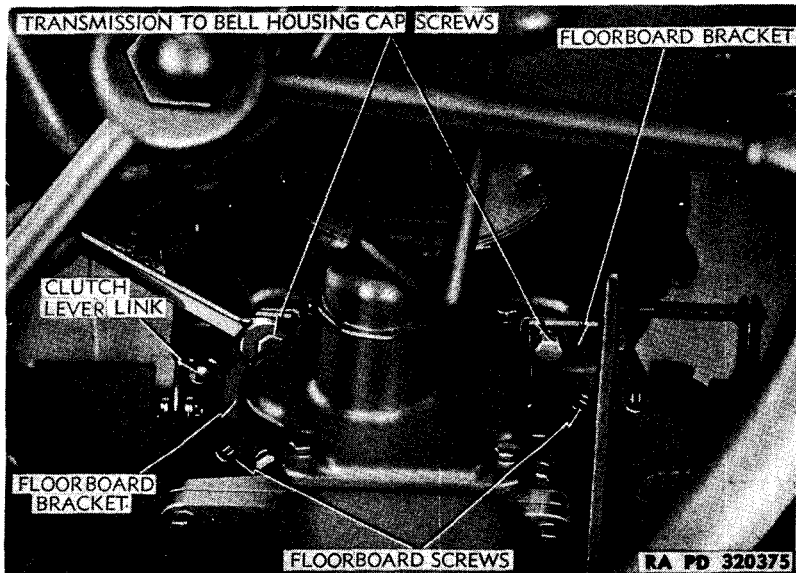
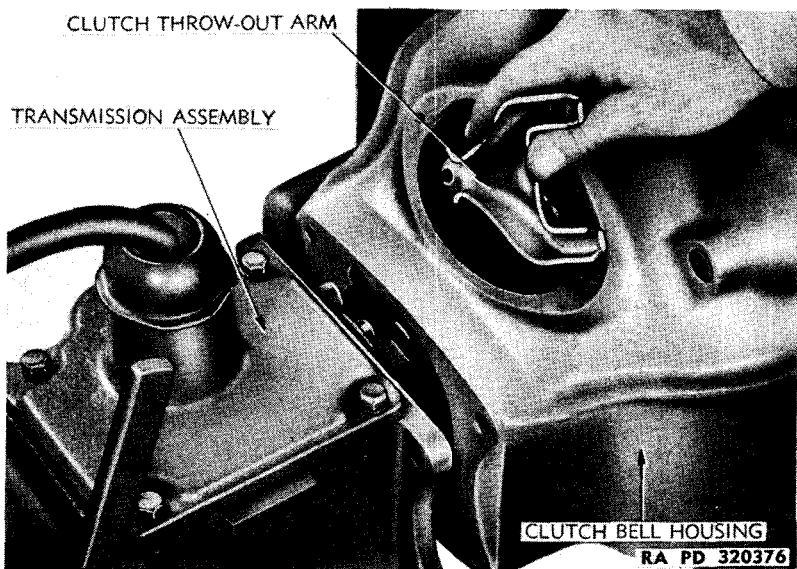

Figure 75—Removing Cap Screw from Clutch Housing
Figure 76—Installing Clutch Throwout Lever
b. Removal (as a unit). Transmission and auxiliary transmission are to be removed as a unit. Remove fuel tank (par. 66 c). Remove one screw from top side of floorboard on each side of transmissions. Remove four cap screws holding transmission to clutch housing (fig. 75), and remove floorboard bracket on right-hand side of transmission. Remove two cap screws from transmission support bracket under transmission. Remove inspection hole cover from top of clutch housing; disconnect clutch pedal spring and clutch adjusting link at clevis end by removing pin from clevis. Reach through inspection hole in clutch housing, and hold clutch throw-out lever and lever link. Disconnect outside clutch linkage from lever link by moving it forward and down; continue to hold clutch throw-out lever, and lever link, move transmission back from clutch housing about 1 inch, and remove lever link by moving it forward and to the left to disconnect it from clutch throw-out lever. Continue to hold clutch throw-out lever, move transmission slowly toward back of tractor until clutch shaft is out of clutch housing. Move clutch throw-out lever from back of clutch throw-out bearing as transmission is being moved back, allowing clutch throw-out bearing to be removed with transmission. Remove clutch throw-out lever from clutch housing after transmission has been removed.
(1) Enter clutch shaft through back of clutch housing. Move transmission forward until clutch shaft hits clutch plate, shift both transmissions into high gear with shift levers, turn universal joint flange to line splines on clutch shaft with splines in clutch hub, and push forward on transmission while turning universal joint flange so clutch shaft will enter clutch hub when splines are in line. After clutch shaft enters clutch hub, move transmission forward to within 1 inch of the clutch housing.
(2) Install clutch throw-out lever through inspection hole in clutch housing (fig. 76). **NOTE:** *Make certain the lever is back of clutch throw-out bearing and in place on ball on front of transmission.* Install lever link through hole in clutch housing to the left of the transmission,